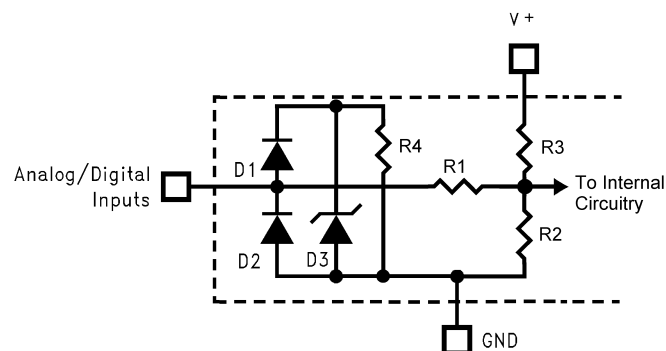

Figure 2. ESD Protection Input Structure
- (1) Parasitics and or ESD protection circuitry are shown in Figure 2 for the LM87's pins. The nominal breakdown voltage of the zener D3 is 6.5 V. Care should be taken not to forward bias the parasitic diode, D1, present on pins: A0/NTEST_OUT, A1 and DACOut/NTEST_IN. Doing so by more than 50 mV may corrupt a temperature or voltage measurement.
- (2) Typicals are at $T_J = T_A = 25\ ^\circ\text{C}$ and represent most likely parametric norm.
- (3) Limits are specified to TI's AOQL (Average Outgoing Quality Level).
- (4) The Temperature Error specification does not include an additional error of $\pm 1\ ^\circ\text{C}$, caused by the quantization error.
- (5) The Temperature Error will vary less than $\pm 1\ ^\circ\text{C}$ over the operating V_{CC} range of 2.8V to 3.8V.
- (6) TUE (Total Unadjusted Error) includes Offset, Gain and Linearity errors of the ADC.
- (7) Total Monitoring Cycle Time includes all diode checks, temperature conversions and analog input voltage conversions. Fan tachometer readings are determined separately and do not affect the completion of the monitoring cycle.
- (8) This is the lowest DAC code specified to give a non-zero DAC output.